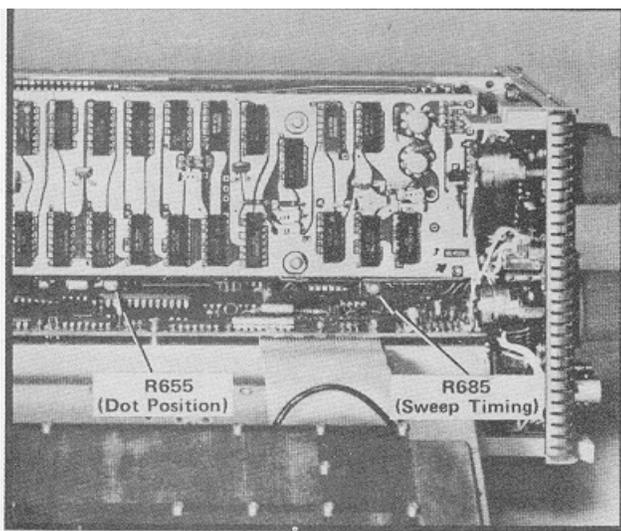

Fig. 4-7. Location of Dot Position and Sweep Timing adjustments and test points.
d. Set the FREQUENCY SPAN/DIV to MAX. Adjust the Max Span Dot Position with R655 (Fig. 4-7) to center the marker dot on the graticule.
p. Adjust the DOT position, with R655 (Fig. 4-7) so it is aligned to the 2500 kHz marker.
c. Position the display with the HORIZ POSITION control and adjust R685 (Fig. 4-7) for 1 marker/division.